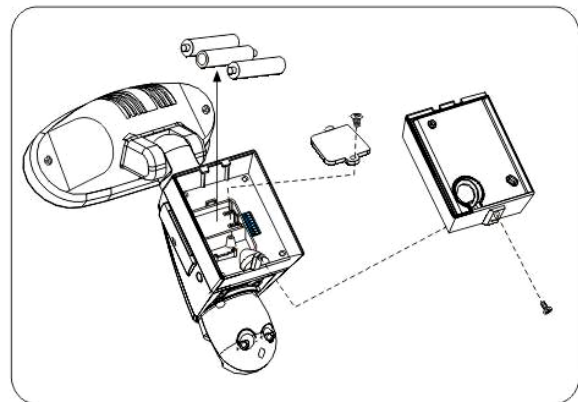

Fig.6
2. Install/replace batteries (see fig. 6)